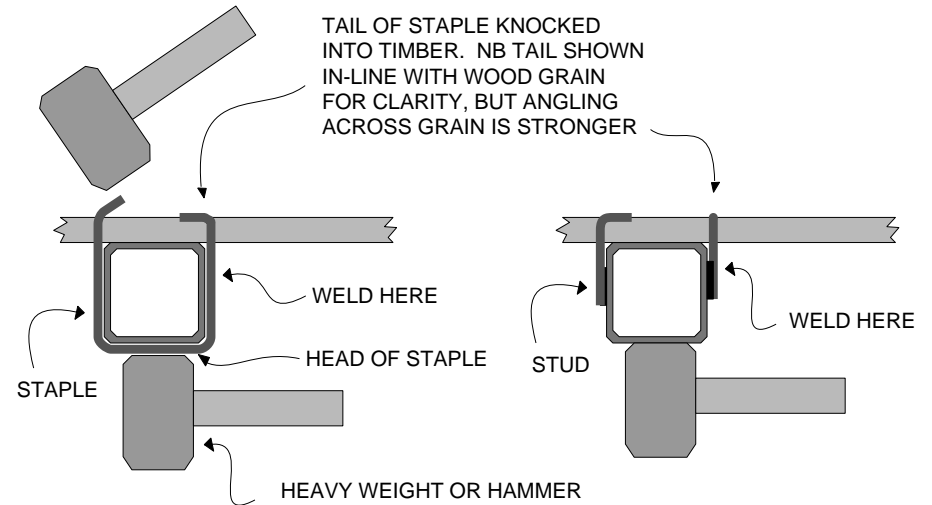

Figure 5: tightening staple or welded stud.
- 4) Next you can fit the side and the bottom planks to the end frames and then the middle frame with staples or studs. Figure 5 shows how these staples and studs can be tightened with a hammer and a weight or another hammer. You need to fix the staples in the right place with a small weld. Studs are another way of fixing the planks. Studs are just short lengths of round bar welded to the sides of
the box section as shown in the right of Figure 5. This saves round bar but means more welding.